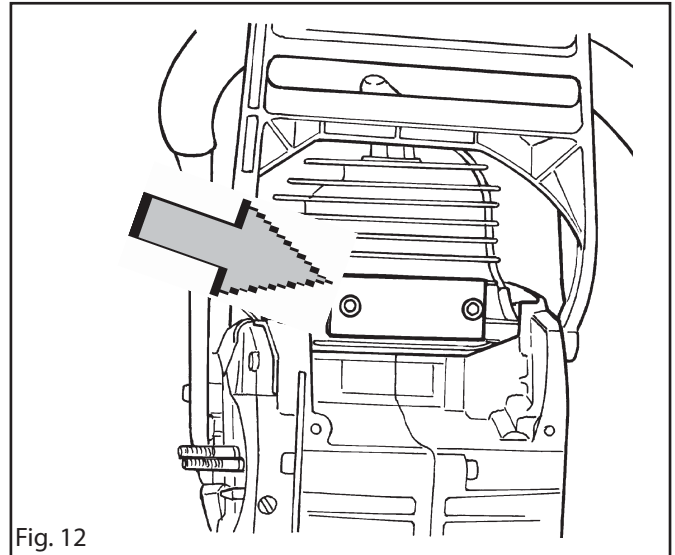

Fig. 12
1. Fit cover plates 578 09 56-01 and 502 71 39-01 to the inlet manifold and exhaust port. See figs. 12 and 13.
4. Locate the guide pegs in the clutch side crankcase half, grease and locate the gasket. See fig. 12.